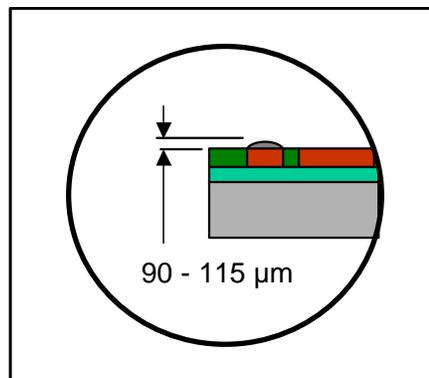

Figure 8a
- Solder paste thickness after reflow process - between 90 and 115µm (see figure 8a). For solder paste, Lumileds recommends flux LR 735 and alloy Sn63/Pb37 from -Metals or similar products.
The second sub-process is the mounting of SMD components and the dispensing of solder paste on the solder pads. The next step involves reflow soldering the SMD components and plating tin on the solder pads. The height of the solidified tin should be between 90 and 115µm for optimal hot bar reflow soldering (see figure 8a). Lumileds recommends the following solder pastes: